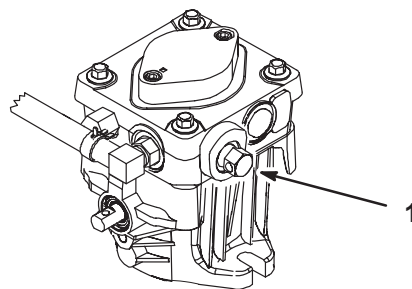

Figure 24
2. Rotate the by-pass valves counterclockwise 1 turn to push. This allows hydraulic fluid to by-pass the pump, enabling the wheels to turn (Fig. 24).
Turn the by-pass valves in to operate the machine (Fig. 24).